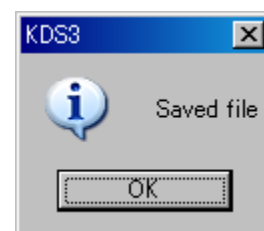

Fig. 5-15 Save Complete
- When Fig. 5-15 appears select OK